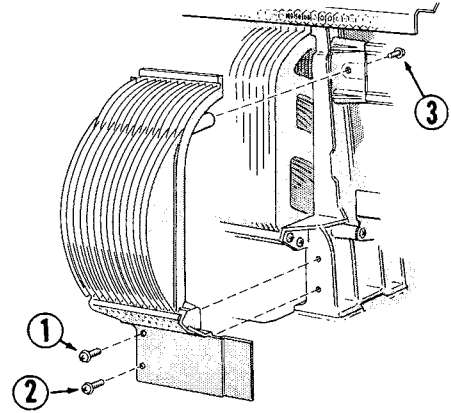

Figure 20.
2. Remove magazine filler by unscrewing (1), (2) and (3) and withdrawing entire section from the front of the record magazine, *Figure 20*.